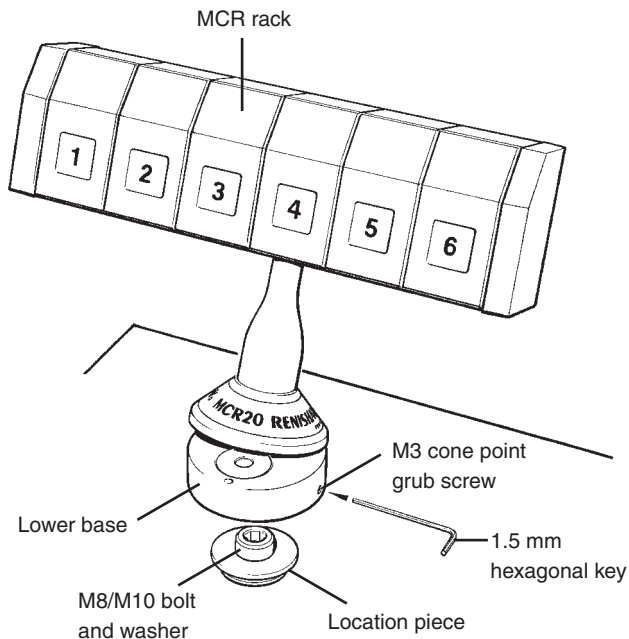

Figure 7 - Mounting the MCR20 onto a CMM
To mount the MCR20 probe module change rack onto your CMM, carry out the following procedure (see figure 7):
3. Using the 1.5 mm hexagonal key supplied, fully release the M3 cone point grubscrew within the base of the MCR20 (refer to figure 7 for screw location).